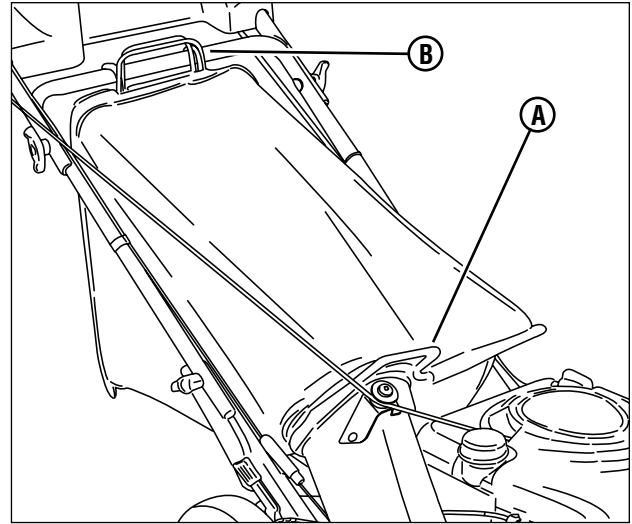

Figure 13: Installing the grass bag
2. Install the grass bag by sliding the connector (**A**, Figure 13) over the adapter flange.